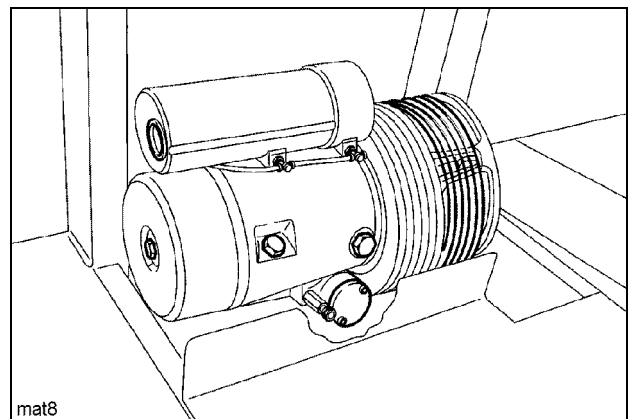

Fig.2
- Clean the cooling fins of the oil cooler with a compressed air gun (Fig. 2).